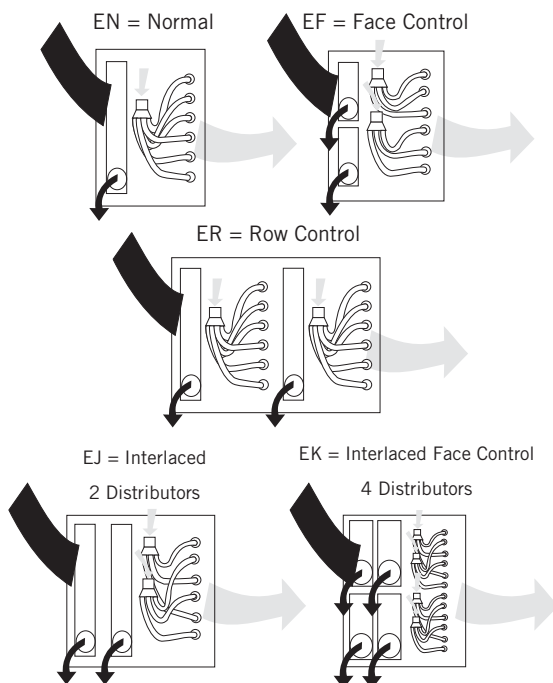

Figure 1. Evaporator Coils
6. See Figure 1 - Evaporator Coils.